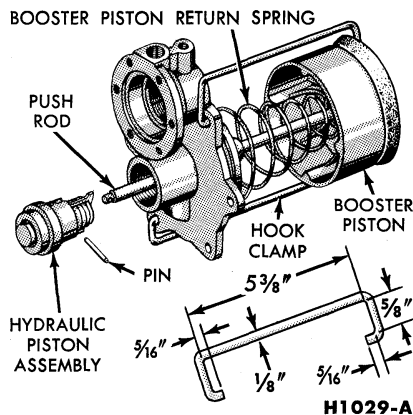

FIG. 4—Push Rod Pin Removal
place the booster piston assembly over the booster return spring (Fig. 4). Compress the booster return spring by pressing toward the end plate to move the push rod forward. Remove the pin retaining the hydraulic piston to the push rod. Remove the hydraulic piston assembly.
2. Remove the booster piston assembly, booster return spring, and push rod from the end plate assembly. A hook clamp may be used to hold the booster return spring in the compressed position while removing the pin (Fig. 4). The clamp should hook through one of the holes in the end plate and over the end of the booster piston assembly. The clamp should be fabricated as shown in Fig. 4.